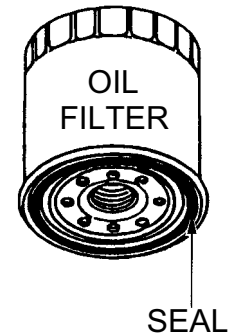

Figure 29. Oil Filter
1. Using a filter wrench, turn filter cartridge (Figure 29) to the left to remove it. If the filter cartridge is filled with a large amount of oil, wait 10 minutes or so before removing. Make sure there is no old gasket stuck on the filter holder.